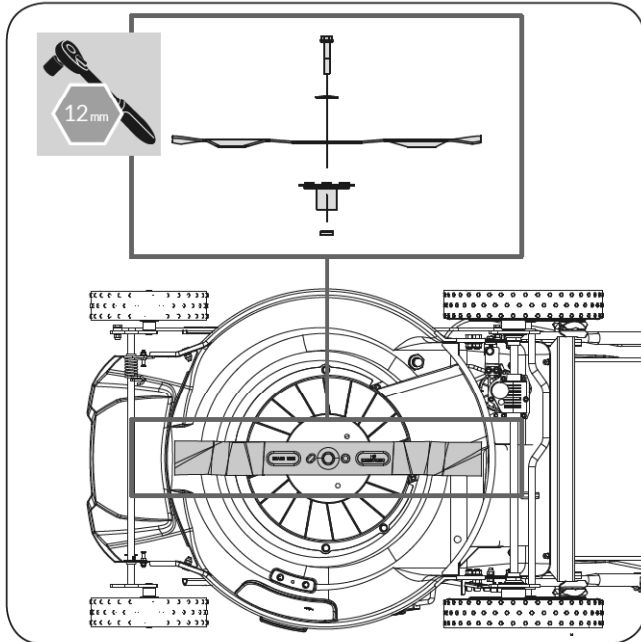

Figure 19
4. Remove the blade, saving all mounting hardware. Examine the blade support and blade bolt to see if there is damage. Examine the motor shaft to make sure that it is not bent. (See **Figure 19**)